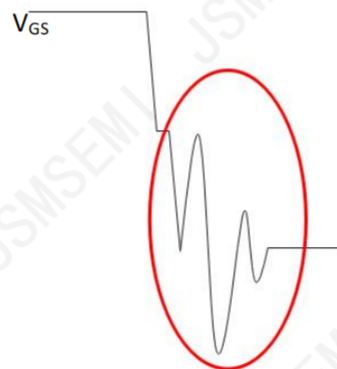

Figure 7 Grid ringing
- 1) Grid signal rings, causing MOS damage (as shown in Figure 7);